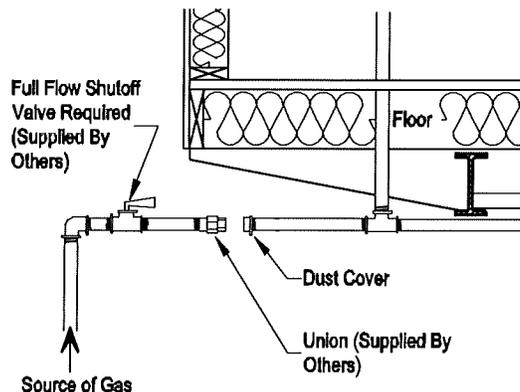

Figure 81. Gas service connection
3. **Remove cap.** Remove the protective cap from home inlet pipe and install a full flow shut-off valve at the supply inlet (**Figure 81**).